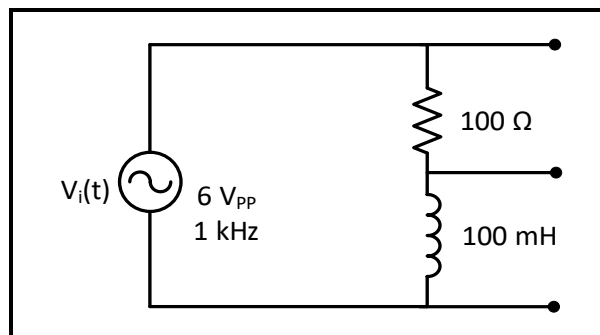

Figure 9.13
1. Connect the circuit of Figure 9.13, set V_{in} to sinusoidal voltage at $6 V_{pp}$, and $f = 1 \text{ kHz}$.